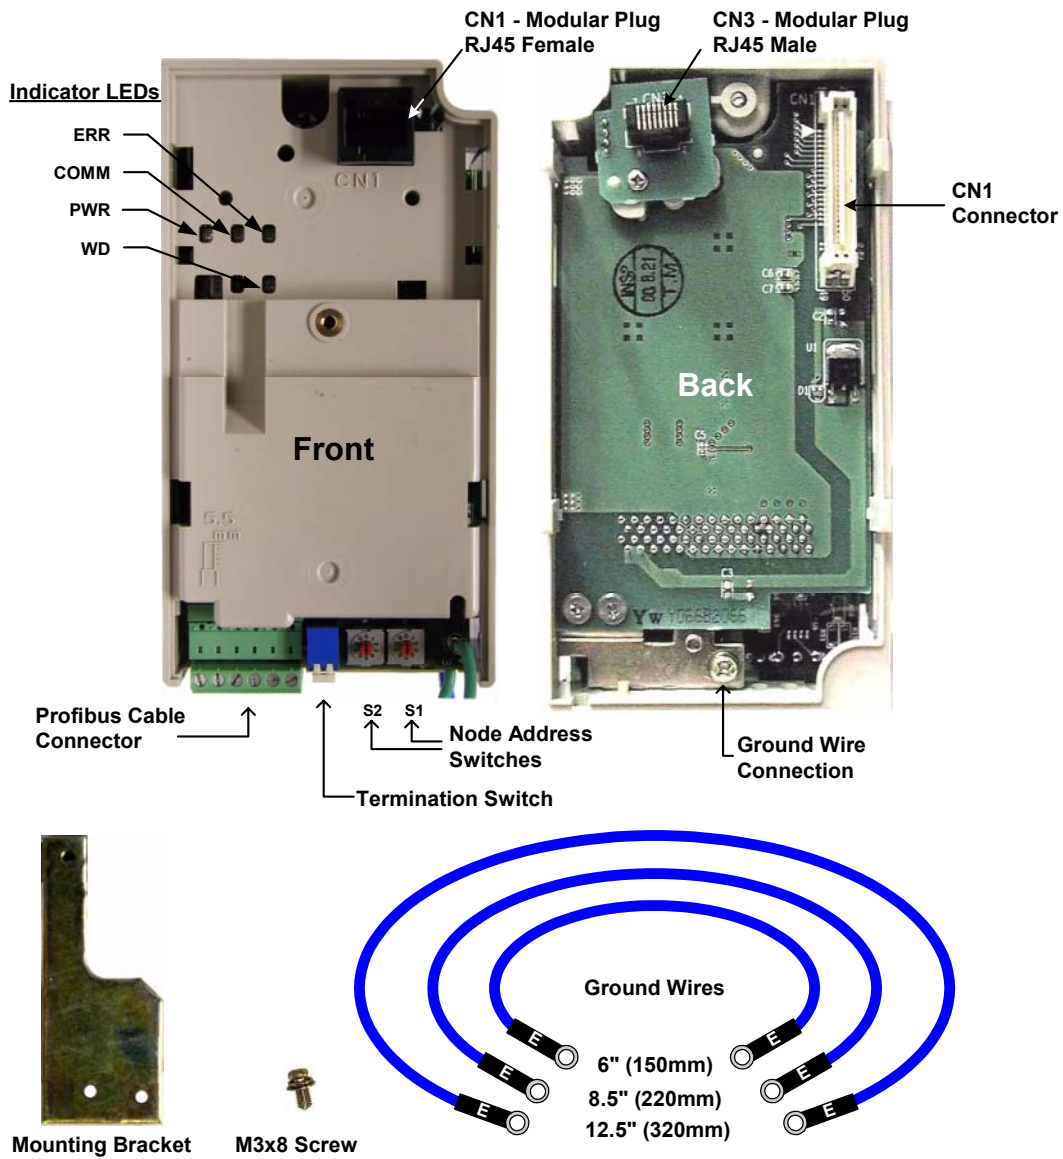

Figure 1.1 – V7 PROFIBUS-DP Option
- 1:** Unpack the *V7 PROFIBUS-DP Option* and verify that all components are present and undamaged. Refer to **Figure 1.1 – V7 PROFIBUS-DP Option**, **Table 1.1 – Product Parts List**.